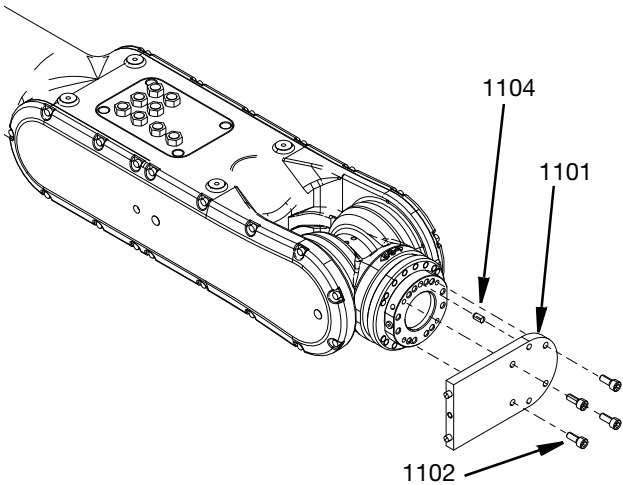

FIG. 17
1. Fasten the Kawasaki 20 kg calibration bracket (1101) on the sixth axis of the robot using SCH cap screws (1102) and 6mm dowel pin (1104). See FIG. 17.